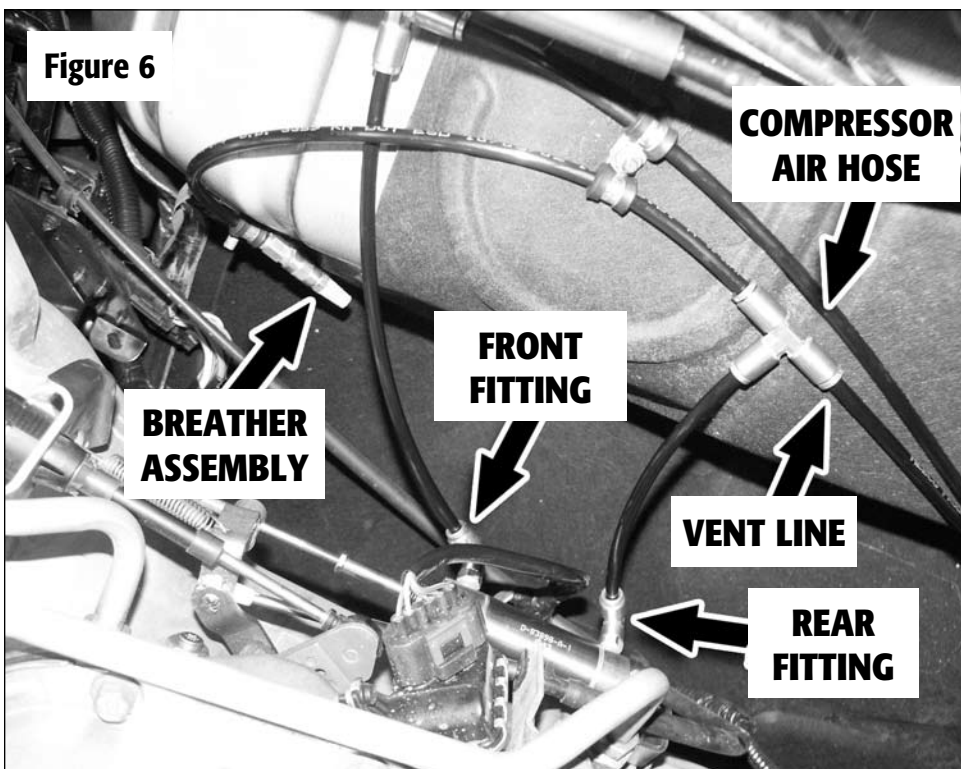

Figure 6
directly at the 90-degree swivel push lock fitting on the rear of the actuator control assembly (the fitting farthest away from the actuator bracket). Mark this location on the hose and cut it with a sharp knife or razor. Remove 1" from the air hose. Install the tee-fitting. See **Figure 6**.
12. Insert the provided air hose into the 90-degree swivel push lock fitting on the rear of the actuator control assembly. Route the air hose toward the tee fitting just installed. Cut the air hose and insert it into the tee fitting. *NOTE: Ensure the length of the hose is long enough for proper routing and sealing. For proper installation, it is required to insert air hose 1/2" into the push lock fitting.* See **Figure 6**.
13. Locate the compressor air hose to the Banks Brake. It is the air hose running from the Banks compressor panel to the Banks brake assembly housing (it should be next to the vent air hose). Align a push lock tee-fitting on the vent hose so the tee-fitting points directly at the 90-degree swivel push lock fitting on the front of actuator control assembly (the fitting closest to the actuator bracket). Mark this location on the hose and cut it with a sharp knife or razor. Remove 1" from the air hose. Install the tee-fitting. See **Figure 6**.
is long enough for proper routing and sealing. For proper installation, it is required to insert air hose 1/2" into the push lock fitting. See **Figure 6**.